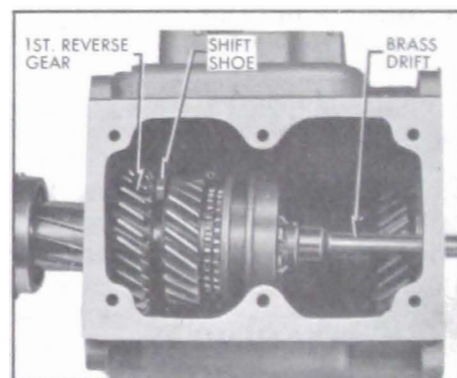

Figure 4-22—Removing Main Shaft
10. Remove main shaft by sliding shaft rearward through rear of case allowing synchronizer assembly, second speed gear, and first-reverse gear to slide off front of shaft. See Figure 4-22.
assembly onto splines with extended portion of synchronizer sleeve toward front. Install main shaft snap ring. See Figure 4-22. Insert second-third shift fork in second-third shift shaft and engage shift fork in groove on synchronizing sleeve. With first-reverse shift shoe offset toward front, engage shift shoe in groove on first-reverse gear. Move complete main shaft assembly forward until rear bearing is fully installed in bore of case.